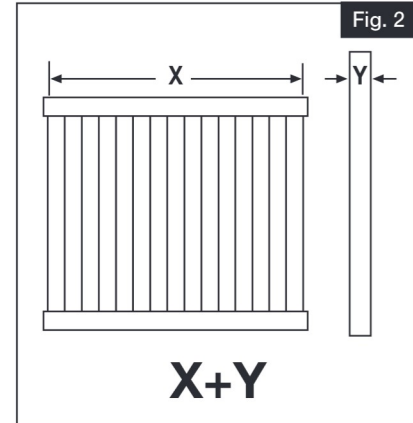

Fig. 2
Measure the width of the fence panel (X) plus the width of the post (Y). This is the common center-to-center measurement (unless there is a cut-down panel) for post hole location (Fig. 2).